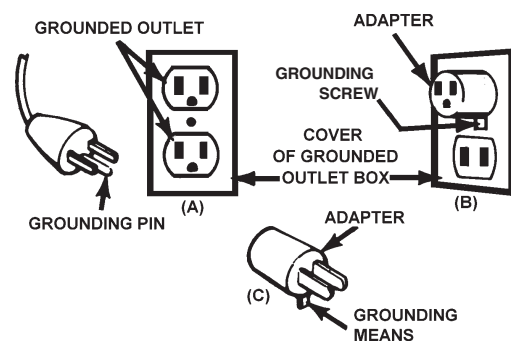

FIGURE 1 GROUNDING METHODS
Charger is equipped with an electric cord having an equipment grounding conductor and a grounding plug. The plug must be plugged into an outlet that is properly installed and grounded in accordance with all local codes and ordinances. This battery charger is designed for use on a nominal 120 volt circuit and has a grounded plug that looks like the plug illustrated in FIGURE 1 (A). This plug should be used in a grounded outlet. The plug pins must fit the receptacle (outlet).
ADAPTER: A temporary adapter, as shown in FIGURE 1 (B) and (C), may be used to connect the charger plug to a two pole receptacle (outlet), as shown in FIGURE 1 (B).